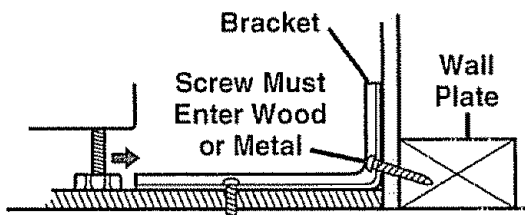

Fig. 2
2. **Wall:** Drill an angled  $\frac{1}{8}$ " pilot hole (as shown in **Fig. 2**) in the center of each pre-marked wall hole position (a nail or awl may be used if a drill is not available).
- B. Mount the **ANTI-TIP** bracket with the 4 screws provided as illustrated in **Fig. 2**